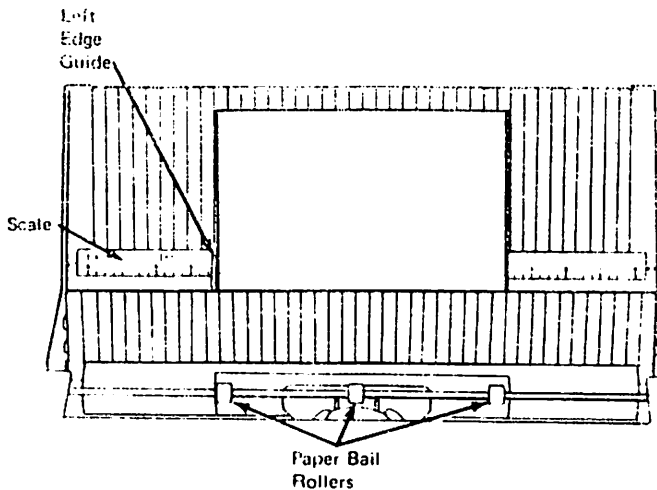

Figure 18 Adjusting paper bail rollers
5. Adjust the three paper bail rollers so that they are equally spaced across the width of the paper when the paper is in the print position (Figure 18).